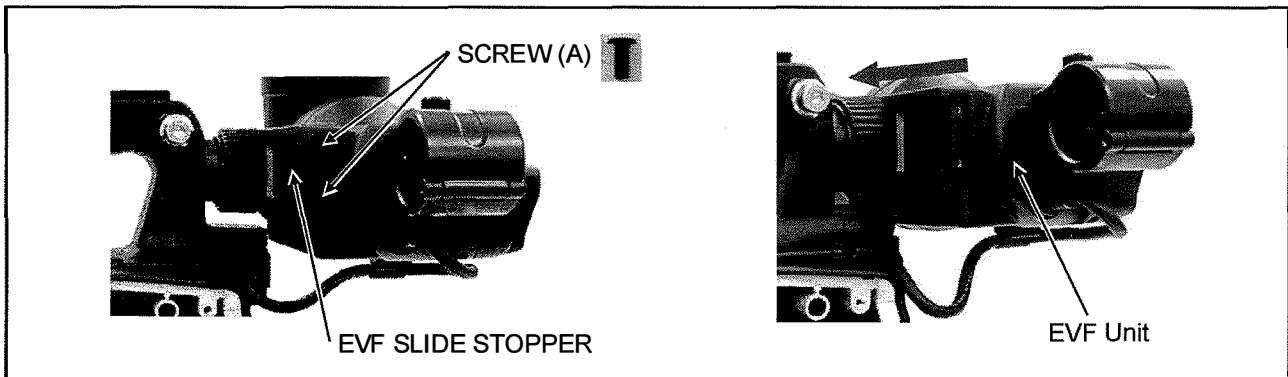

Figure 14-2
3. Unscrew the 2 screws (A) as shown in figure 14-2 and remove the EVF SLIDE STOPPER.
4. Slide the EVF Unit in the direction of arrow as shown in figure 14-2 and remove the EVF Unit from SLIDER.